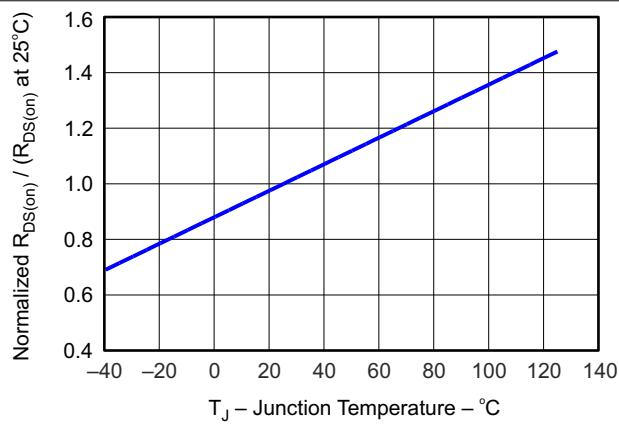

图 5-3. Normalized Rds(On) vs Junction Temperature
- (1) Stresses beyond those listed under *Absolute Maximum Ratings* may cause permanent damage to the device. These are stress ratings only, which do not imply functional operation of the device at these or any other conditions beyond those indicated under Fig 5.3. Exposure to absolute-maximum-rated conditions for extended periods may affect device reliability.
- (2) These are the maximum allowed voltages for transient spikes. Absolute maximum DC voltages are lower.